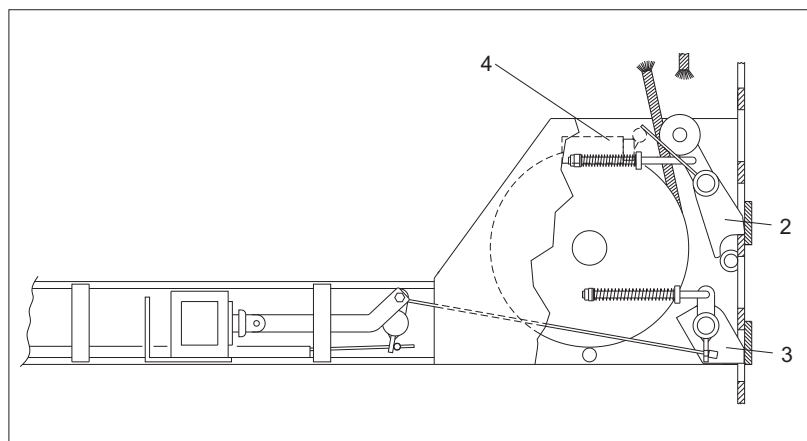

Fig.26
- Should the steel cables slacken or break, the safety wedges (2) will stop the movable part of the lift and the vehicle in its current position (fig.26) and a microswitch (Pos.4, fig.26) located on the steel cables inside the cross-piece will disconnect the power supply to the motor.